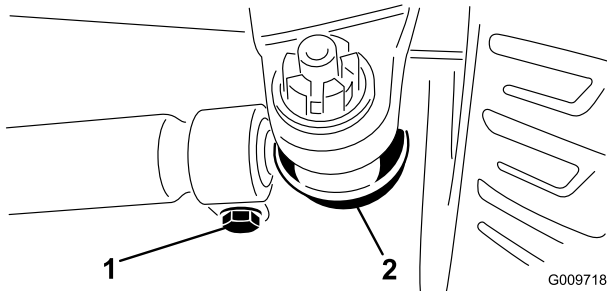

Figure 68
2. To adjust, remove the cotter pin and nut from either tie rod ball joint. Remove tie rod ball joint from axle case support (Figure 68).
3. Loosen the clamps at both ends of the tie rods (Figure 68).